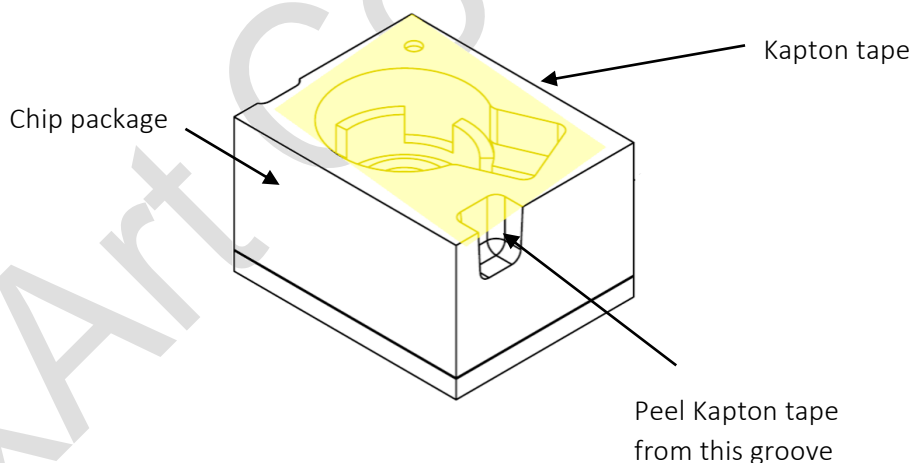

Figure 10. Remove Kapton Tape with Tweezers
2. Remove the protective Kapton tape using tweezers under a magnifier with light. Hold the PCB assembly (groove face towards operator) and peel off the Kapton tape using round tip tweezers at the groove on the chip package as shown in Figure 10.